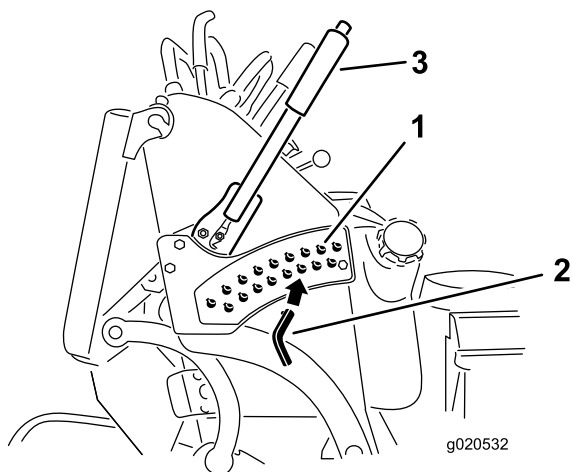

Figure 22
3. Select a hole in the height-of-cut bracket corresponding to the height-of-cut desired and insert the pin (Figure 22).
4. Push the button on top and lower the height-of-cut lever to the pin (Figure 22).